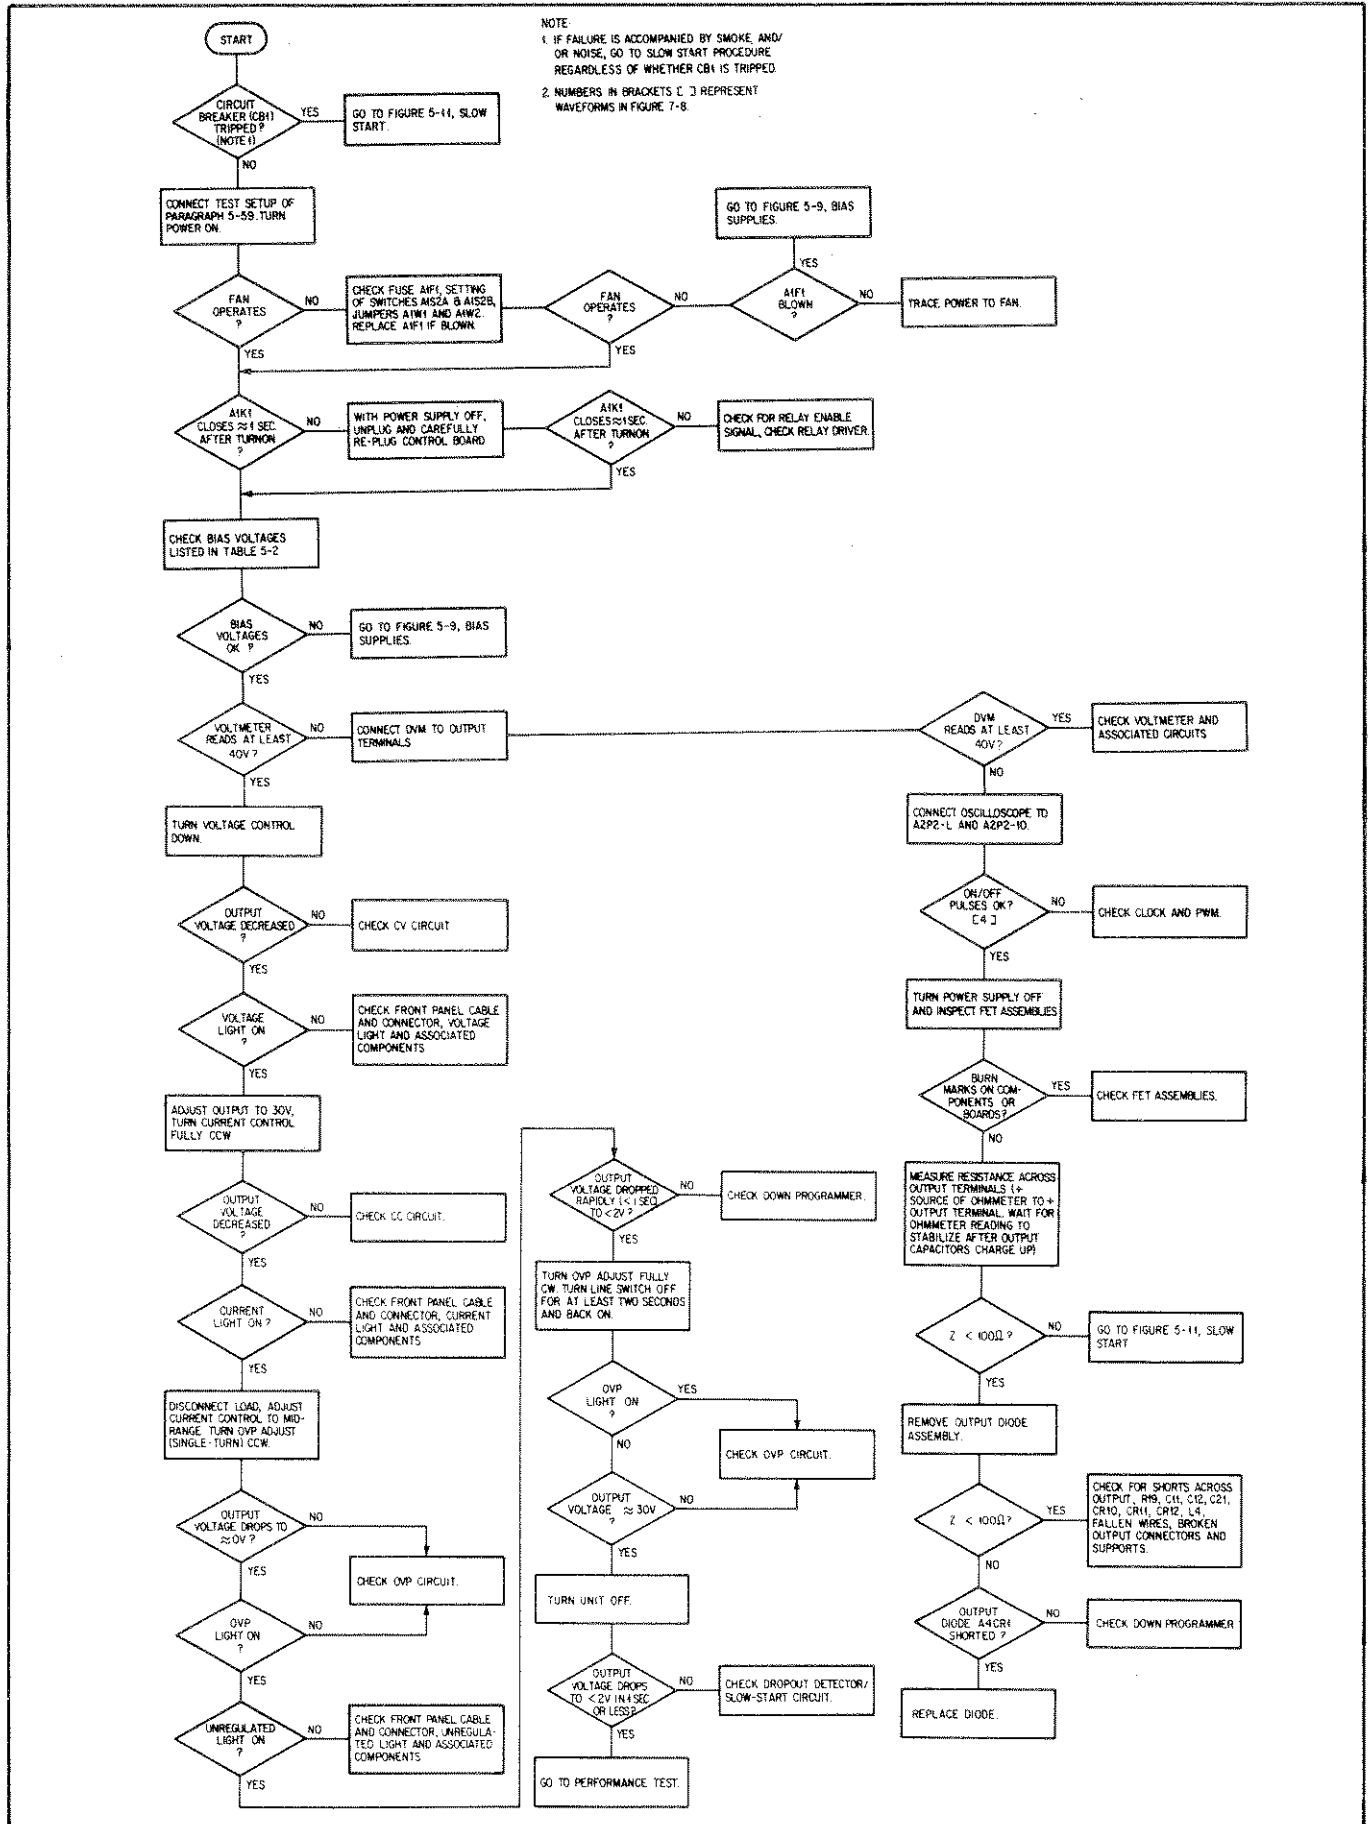
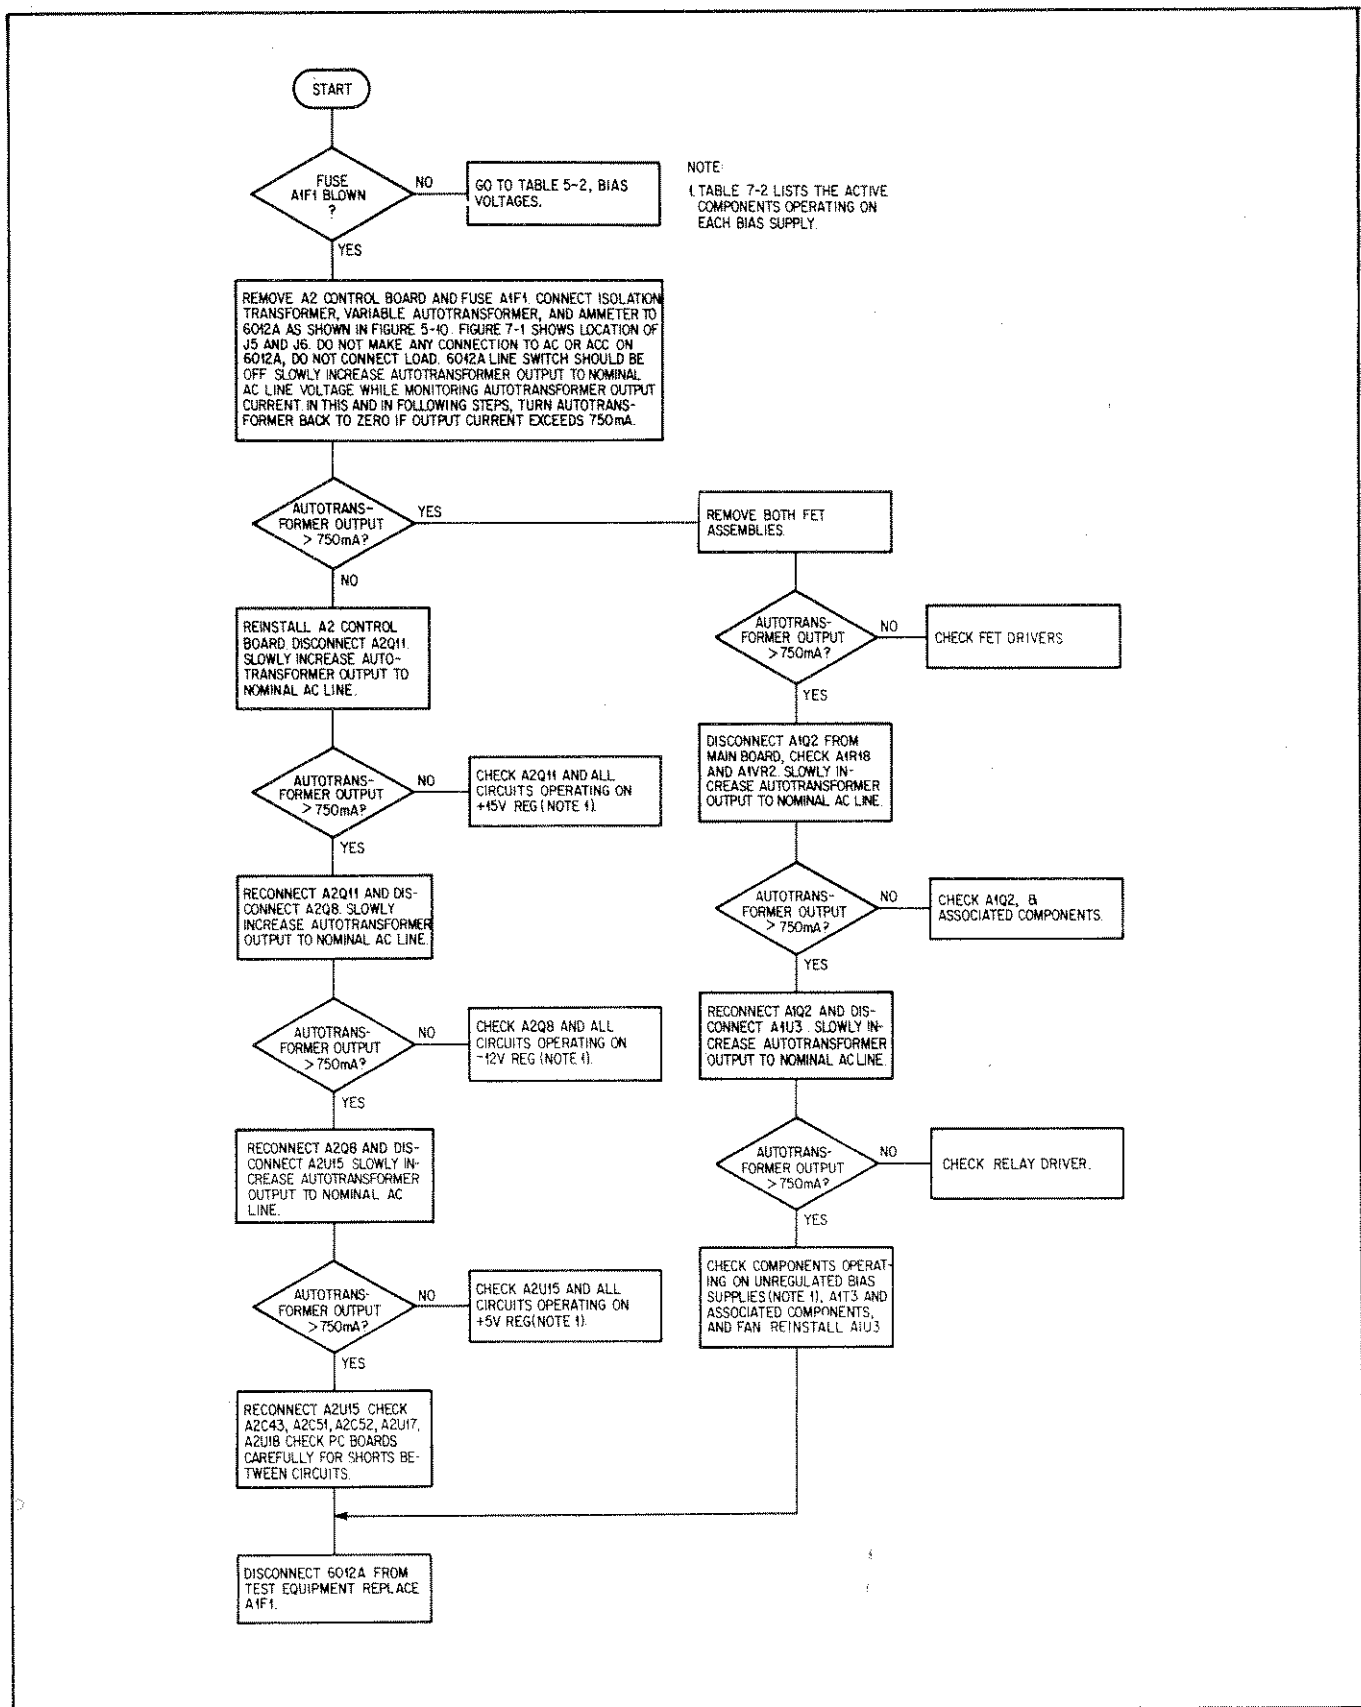
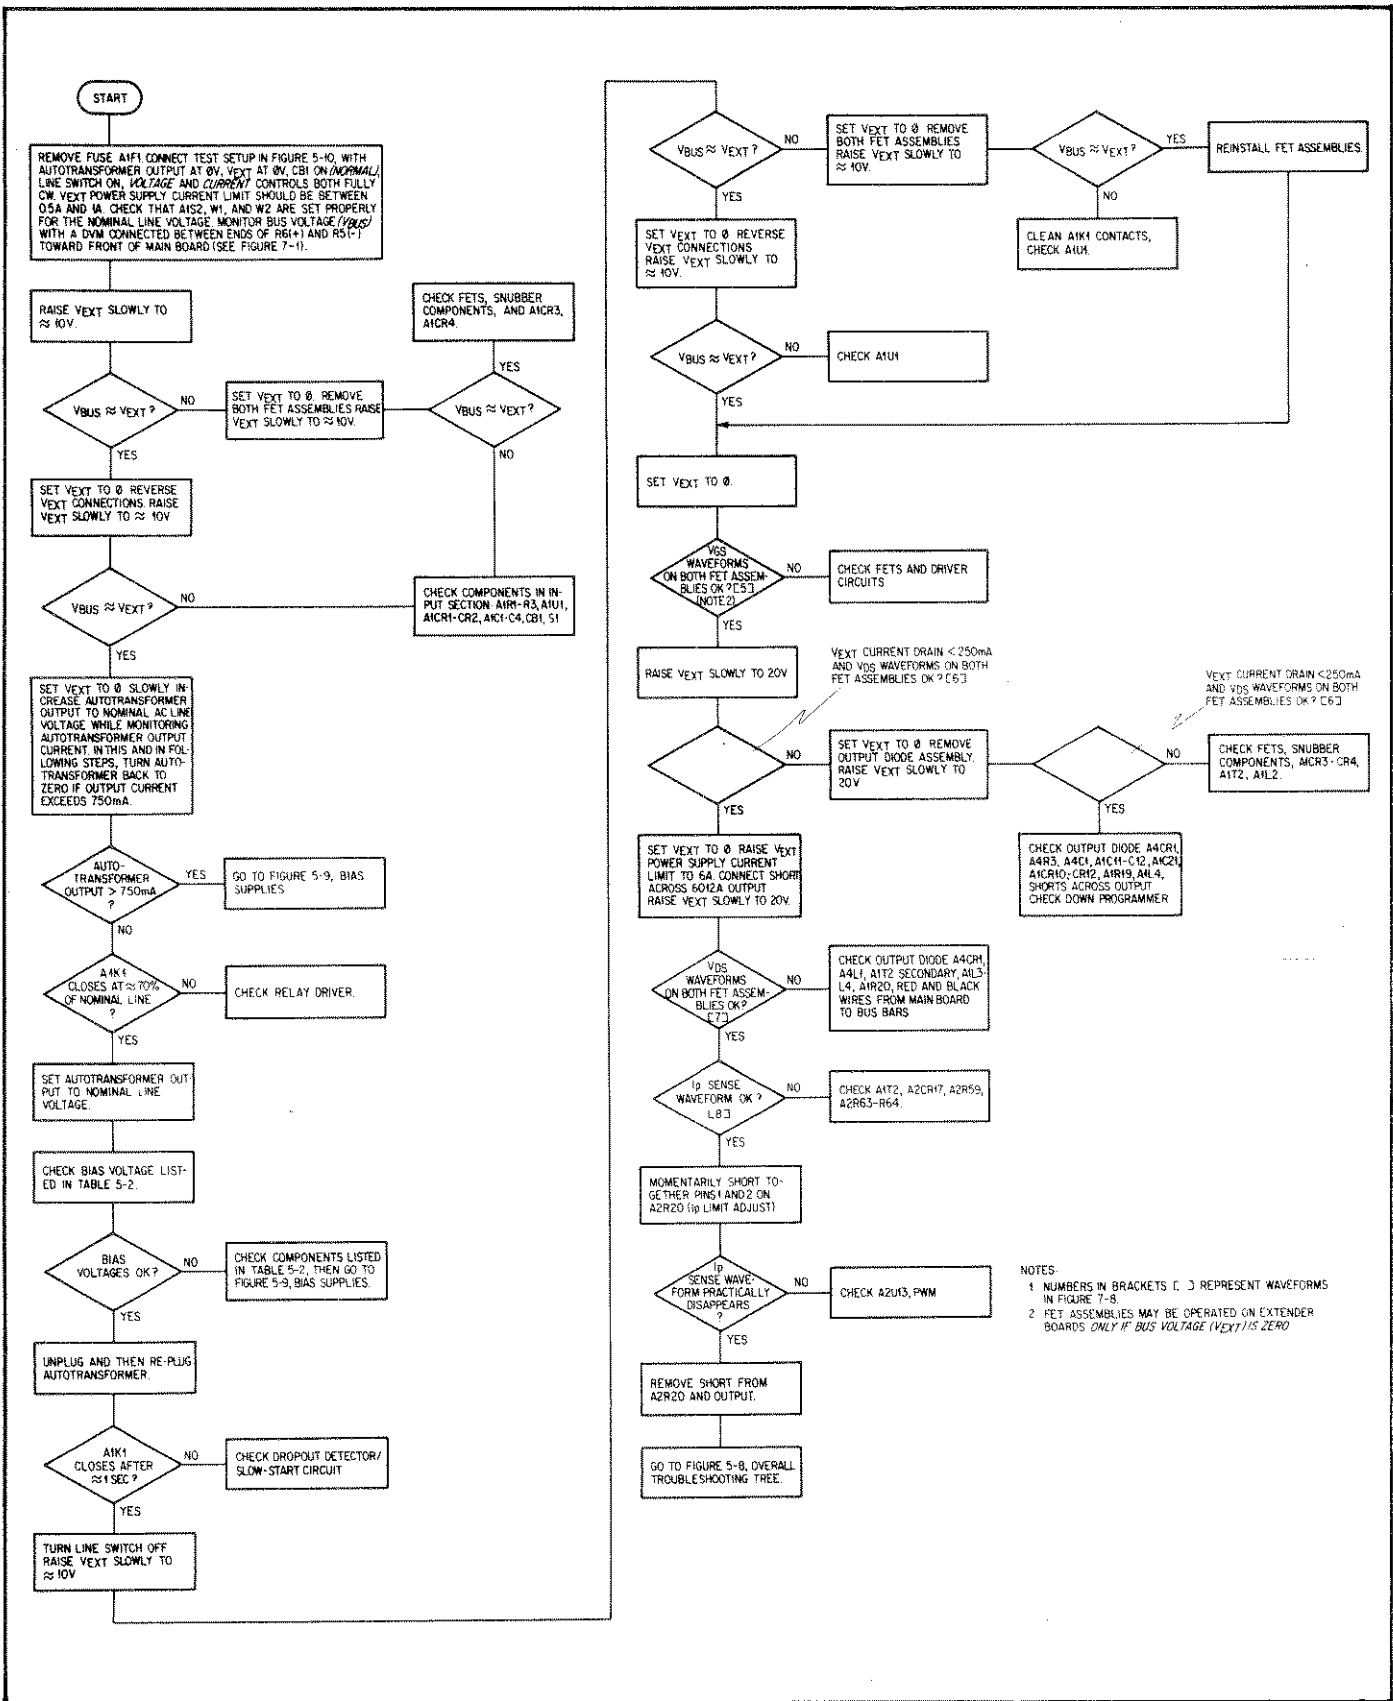

Figure 5-8. Overall Troubleshooting Tree.
Figure 5-9. Troubleshooting Bias Supplies
Figure 5-11. Slow Start Procedure
- a. Check that input power is available, and check the power cord and rear-panel circuit breaker. If breaker trips while power is on, or if breaker is found to be tripped at any time for unknown reasons, refer to Figure 5-11, Slow Start Procedure.
5-61 Once the test setup is arranged, proceed to the overall troubleshooting tree in Figure 5-8. This tree will isolate trouble to a particular circuit. Table 5-3 provides information that the user who understands the operation of the circuit as described in Section IV can use with standard troubleshooting procedures to locate the trouble.
<p>After using the overall troubleshooting tree (Figure 5-8), bias supplies troubleshooting tree (Figure 5-9), and slow-start procedure (Figure 5-11) to isolate a fault to a particular circuit, use the following guidelines with the schematic and standard troubleshooting techniques to locate the fault.</p>